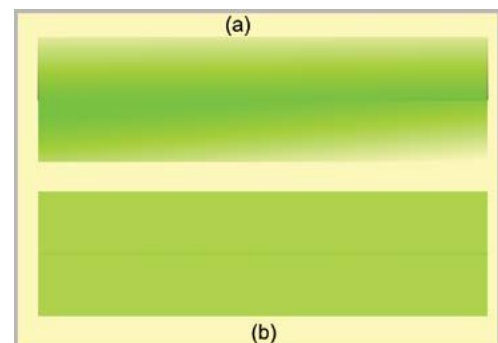

Fig.10. Paint stripes using (a) round brush and (b) flat brush.
(1) Painting a barn door. Would you use a round or a flat brush? The relative effects are illustrated in fig.10.
(2) Try using an aerosol spray, moving quickly over a sheet of cardboard. The effect is very similar to that of a shot stream, as well as to (a) in fig.10.